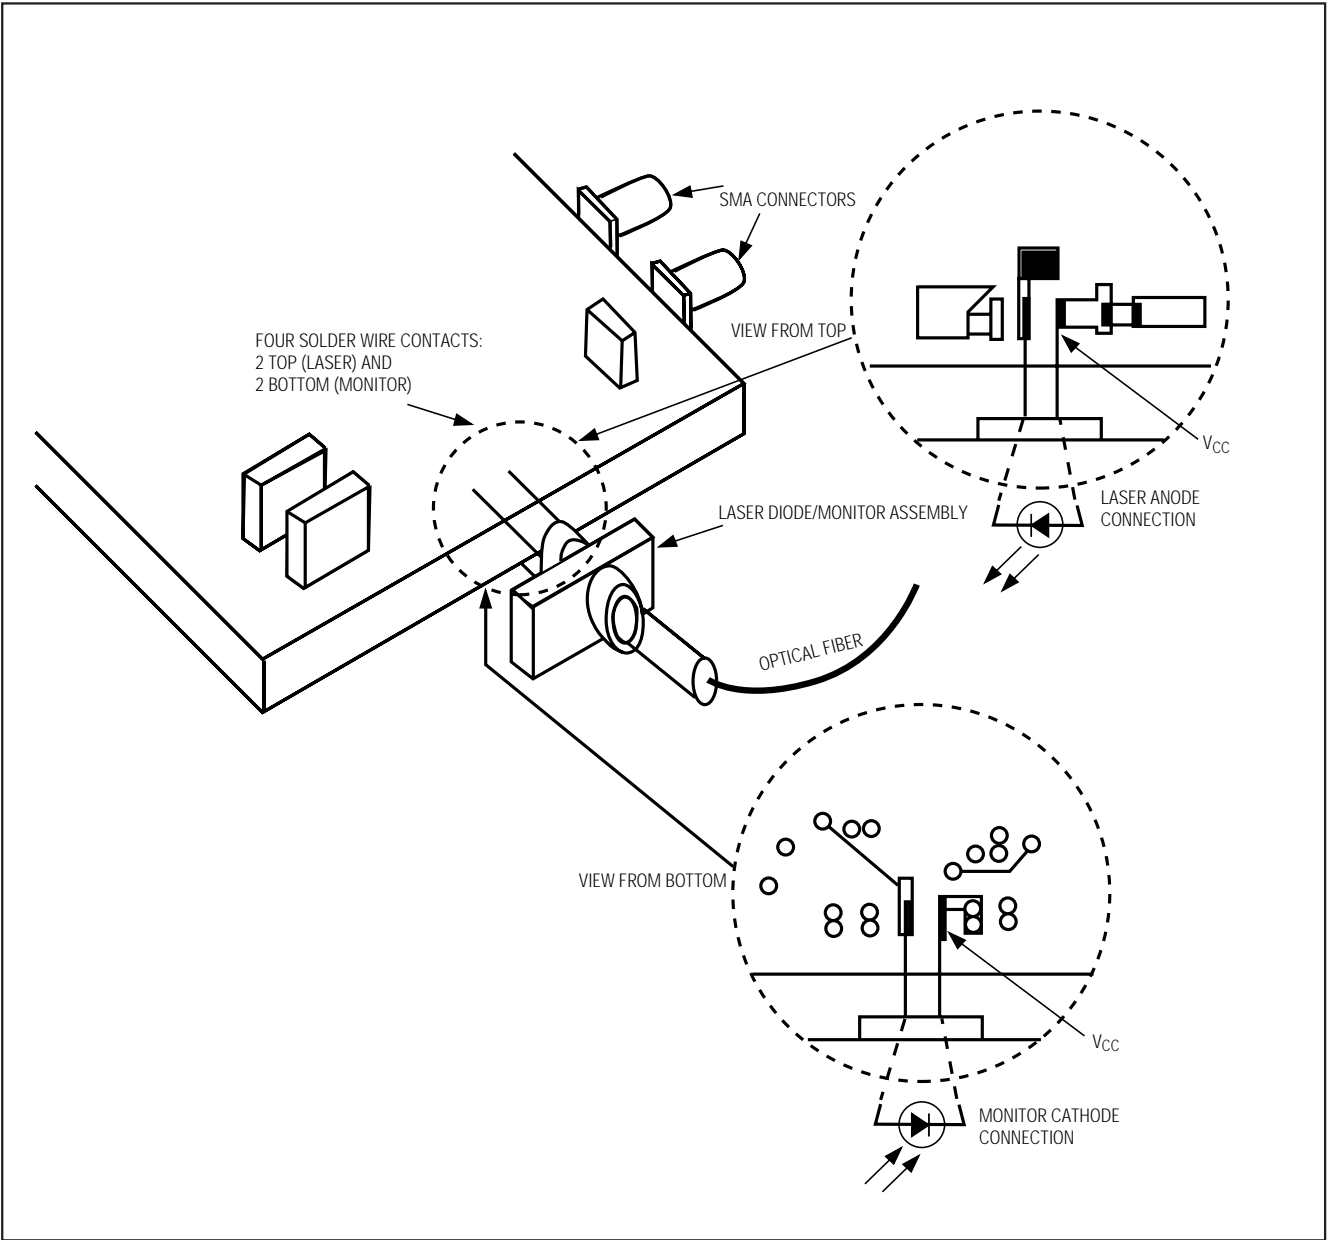

Figure 1. Attachment of Laser Diode/Monitor to MAX3667 EV Kit
- 11) Connect a TO46-style header laser diode and monitor (Figure 1).